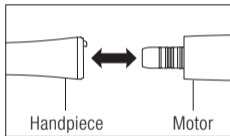

Fig. 1
- 1 Insert the handpiece direct to the motor (Fig. 1). Screw the handpiece until it clicks and locks into position.